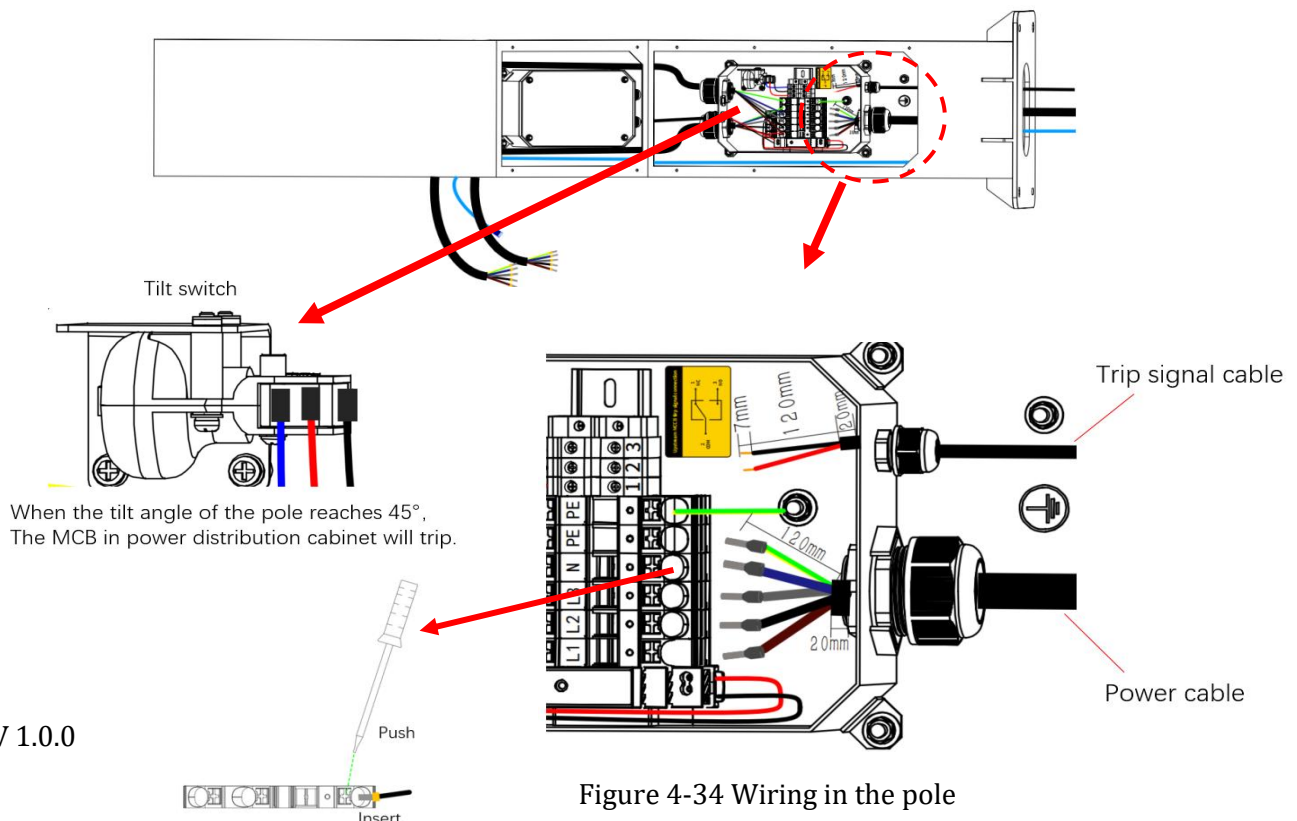

Figure 4-34 Wiring in the pole
(2) Connect the cable
Connect the trip signal cable to the terminal 1 and terminal 2 (NC) or terminal 2 and terminal 3 (NO). A SL2 screwdriver can be used with torque of 0.6-0.75N.m. Connect the power cable as the phase sequence shown in Figure 4-34. After wiring is finished, lock the gland by using a torque wrench with torque of 7.5N.m.